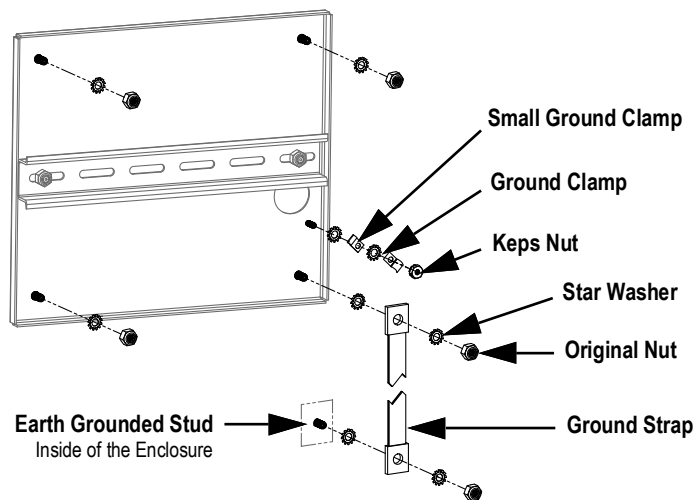

Figure 2-29. Backplate Shield Grounding
3. Secure the other end of the ground strap to an earth grounded stud inside of the enclosure with star washers on either side of the ground strap, see Figure 2-29. Make sure there is an appropriate amount of slack in the grounding strap for opening and closing the enclosure door.
NOTE: Ensure the small ground clamp is installed first then install the ground clamp, see Figure 2-29 on page 38.